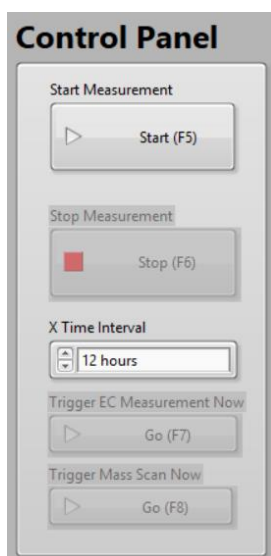

Figure 18. The measurement control panel
- The **Control Panel** (shown in detail in Figure 18), contains the following controls: